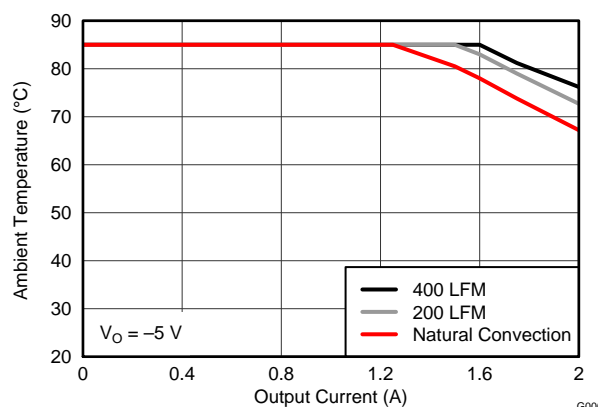
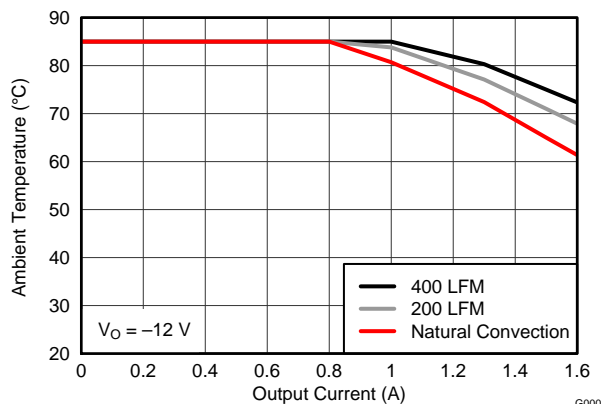

Figure 18. Safe Operating Area
Figure 19. Safe Operating Area
- (3) The temperature derating curves represent the conditions at which internal components are at or below the manufacturer's maximum operating temperatures. Derating limits apply to devices soldered directly to a 100 mm × 100 mm, 4-layer, double-sided PCB with 1 oz. copper. Applies to Figure 18, Figure 19, and Figure 20.